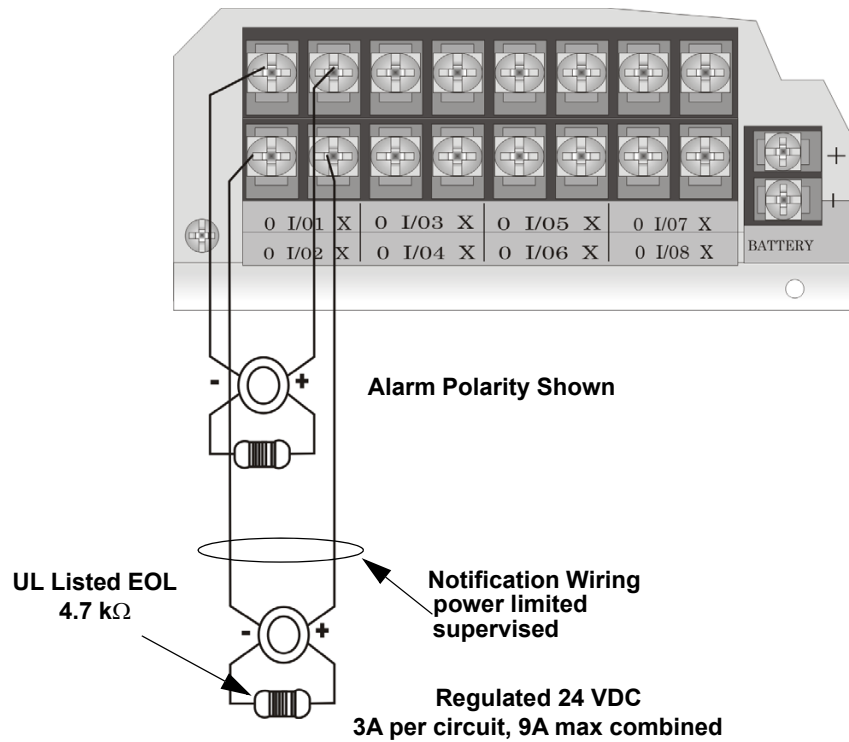

Figure 4-32 Class B Notification Appliance Circuit Wiring
1. Wire Class B Notification appliances as shown in Figure 4-32.